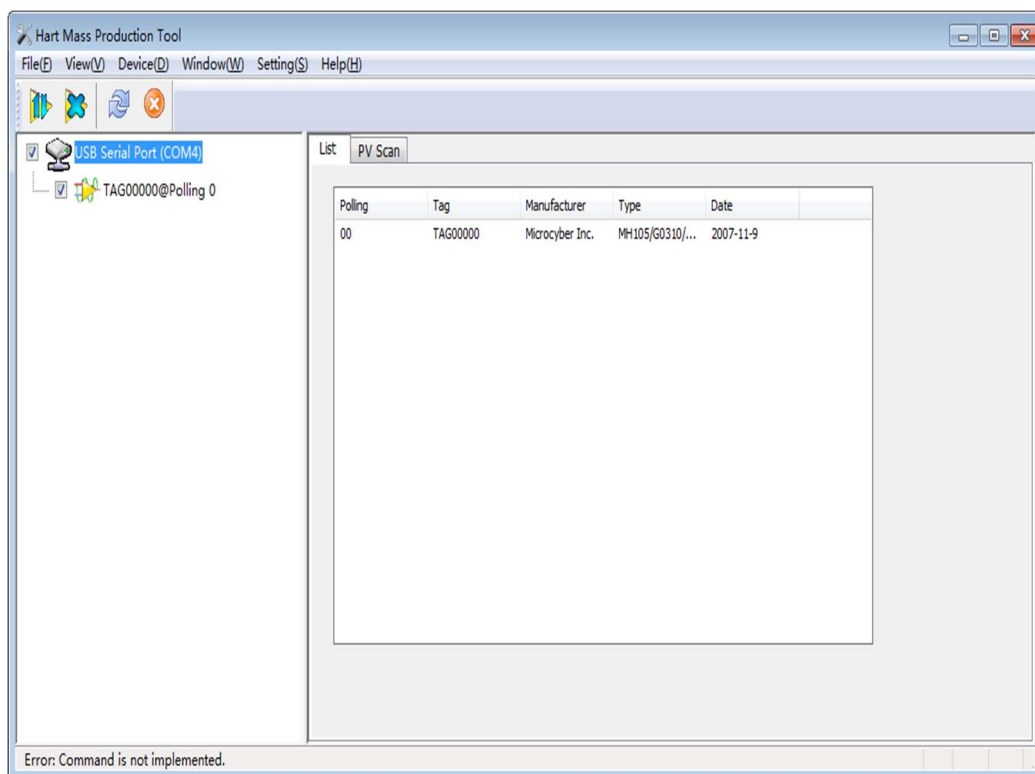

Figure 5.18 Device List tab
- (1) Click on the left mouse button in the network view serial node (for example: COM1), the right tab view shows the serial port connected to the network of all online device related tab information.
- (2) Click on the "device list" in the right tab view, and if the information is obtained successfully, the summary information of all searched online devices is displayed, as shown in Figure 5.18.错误!未找到引用源。